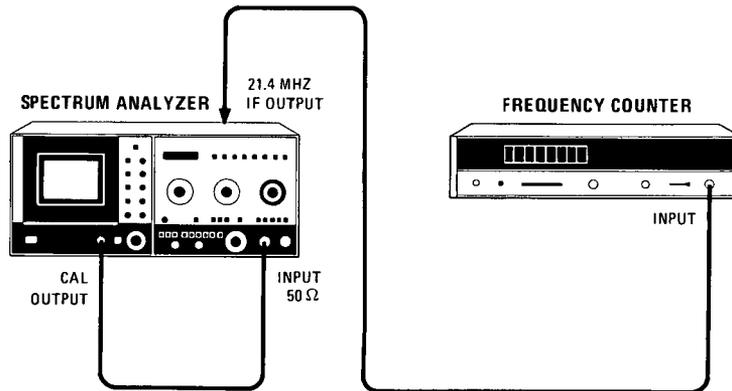

Figure 5-20. Bandwidth Filter Adjustment Test Setup
- b. Reconnect power cord, set LINE switch ON, connect equipment as shown in Figure 5-20, and set 8565A controls as follows: